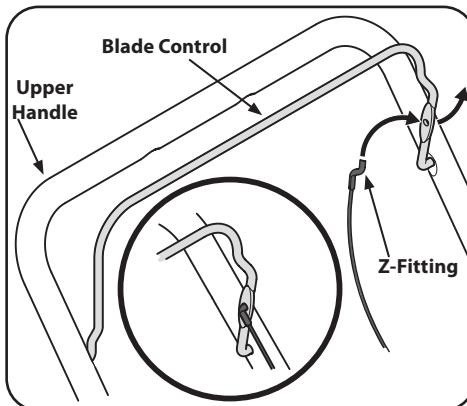

Figure 2-2
- Hook the Z end of the brake cable into the control from the outside to inside. See Figure 2-2.